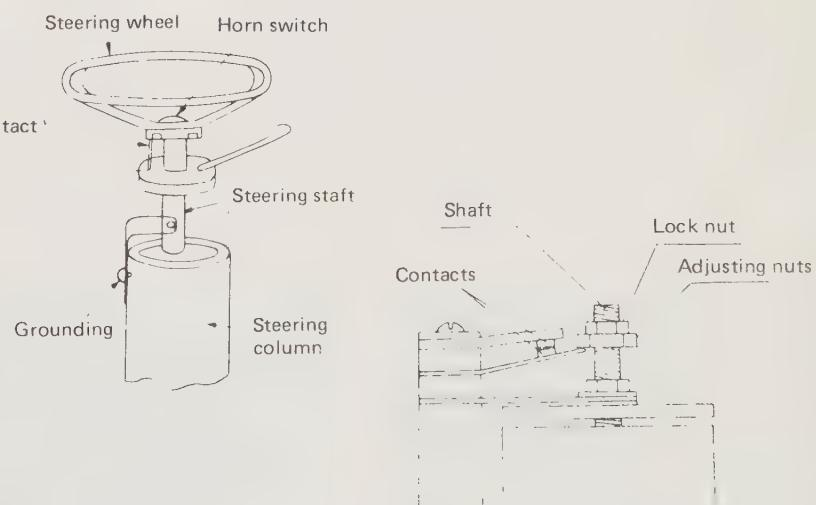

Fig. 10.33. Adjusting the horn contacts
- 3 The volume of sound can be adjusted by loosening the locknut and turning the adjusting nut, see Fig. 10.33, counterclockwise to increase the volume and clockwise to decrease the volume.